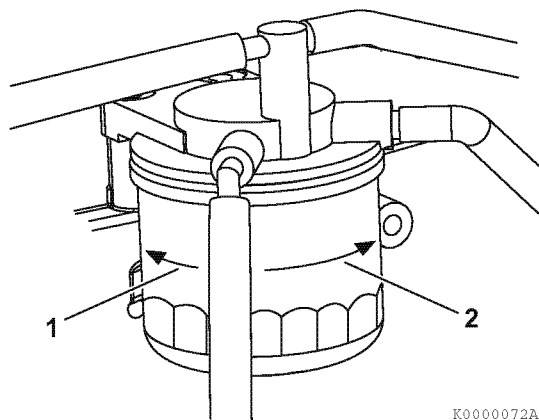

Figure 11
3. Remove the fuel filter using a filter wrench to turn it to the left (1, **Figure 11**). When removing the fuel filter, carefully hold it to prevent the fuel from spilling. Wipe up all spilled fuel.
5. Install the new fuel filter. Hand-tighten it to the right (2, **Figure 11**) until it comes in contact with the mounting surface. Use a filter wrench and tighten to 14 - 17 ft-lb (19.6 - 23.5 N·m, 2.0 - 2.4 kgf·m) or one additional turn using the filter wrench.